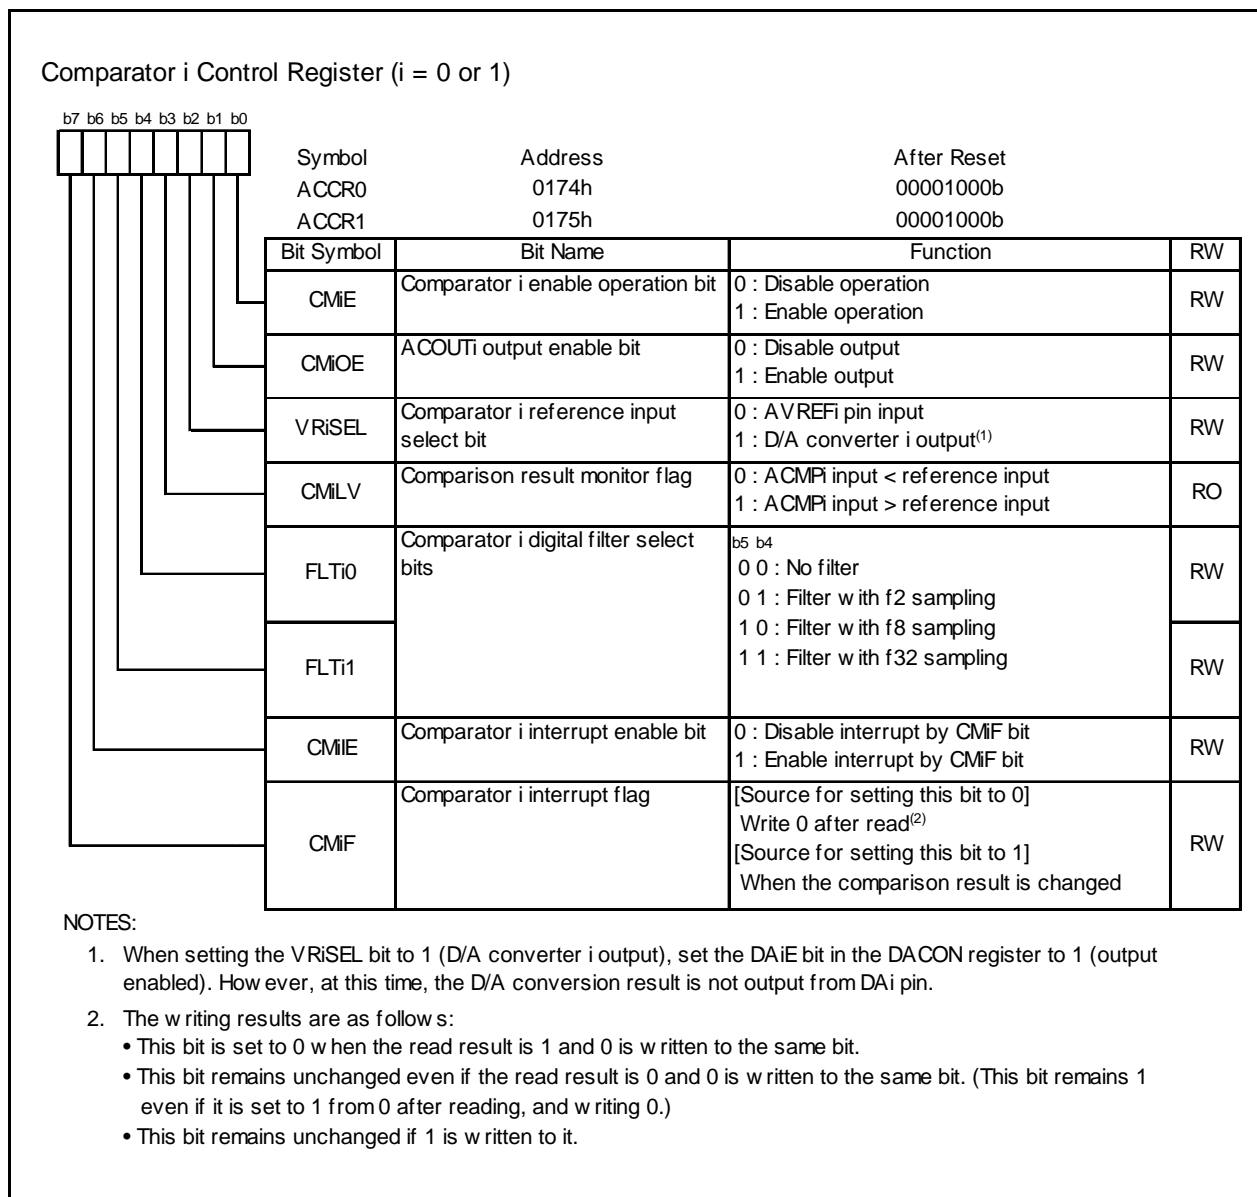
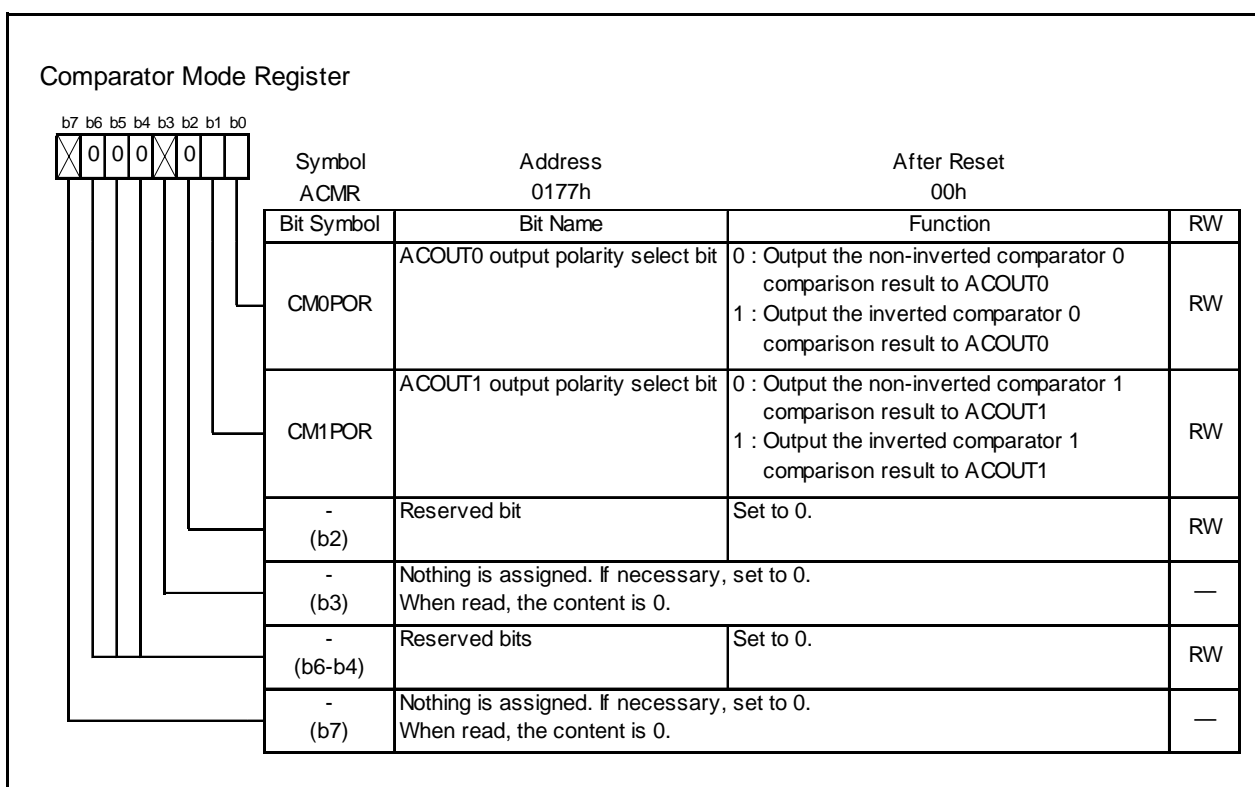

Figure 19.2 Registers ACCR0 to ACCR1
Figure 19.3 ACMR Register
Figure 19.2 shows the Registers ACCR0 to ACCR1 and Figure 19.3 shows the ACMR Register.
- The CMiF bit is not automatically set to 0 when an interrupt is acknowledged. Set it to 0 within the interrupt routine. Refer to **Figure 19.2 Registers ACCR0 to ACCR1**, for the procedure for setting these bits to 0.